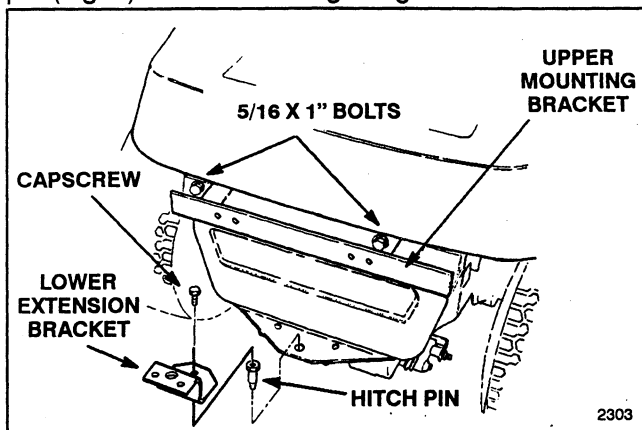

Figure 1
These units require the installation of an upper mounting bracket, lower extension bracket and hitch pin (Fig. 1) before attaching the grass catcher.
1. Attach the upper mounting bracket to the rear of the tractor using (2) 5/16 x 1" bolts and locknuts supplied (Fig. 1).